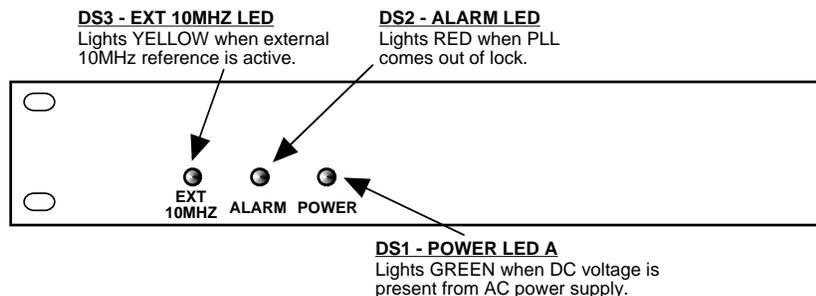

FIGURE 2.2 2116-80 Front Panel Controls and Indicators
- 4.) Be sure DS1 (green, DC Power) is on and DS2 (red, Alarm) is off (Figure 2.2).
- 6.) If EXT is selected or AUTO is selected and there is a 10MHz, 0 dBm signal at J2, check that DS3 (yellow, Ext 10MHZ) is on (Figure 2.2).